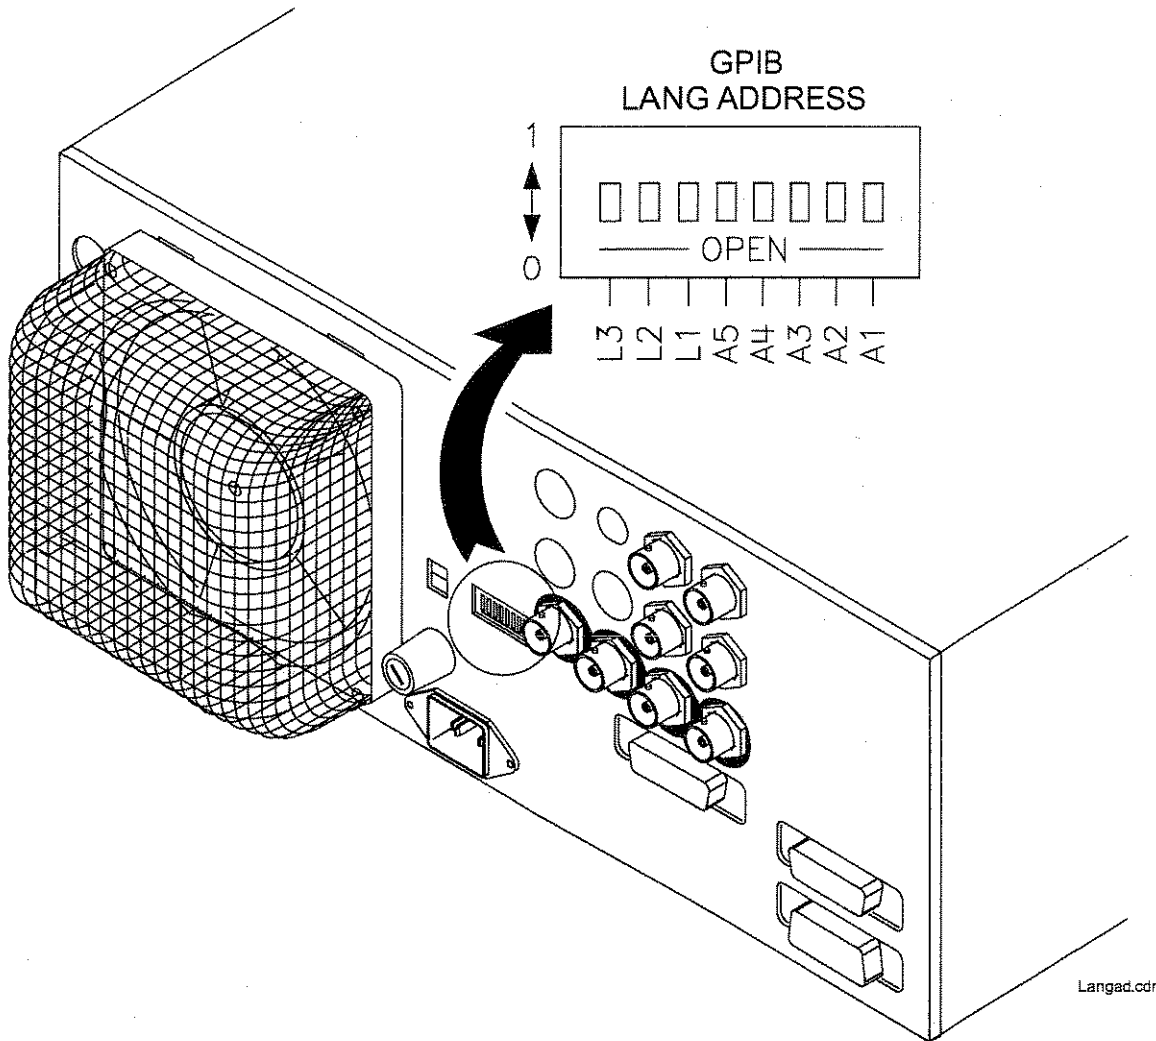

Figure 3-2. Rear Panel GPIB Switch
To set a programming language from the front panel, the instrument language on the rear panel GPIB switch (L1, L2, and L3 shown in Figure 3-2) *must* be set to 7 (all 1s).
If the swept signal generator displays Rear panel GPIB language must be 7 (111) in order to change current language (=XXX), the address on the rear panel GPIB switch (Figure 3-2) is set to something other than 7 (all 1s).
If your swept signal generator does not have a front panel, set the rear panel GPIB switch (Figure 3-2) for the language you want. (See Table 3-2 for language addresses.)
To set a GPIB address from the front panel, the instrument address on the rear panel GPIB switch (Figure 3-2) *must* be set to 31 (all 1s).
If the swept signal generator displays Rear panel GPIB address must be 31 (11111) in order to change current address (=XX), the address on the rear panel GPIB switch (Figure 3-2) is set to something other than 31 (all 1s).
To disable the address softkeys, set the instrument address on the rear panel GPIB switch (Figure 3-2) to any address *other than* 31 (all 1s).
If your swept signal generator does not have a front panel, set the address on the rear panel GPIB switch (Figure 3-2) to the address you want (factory default is 19).